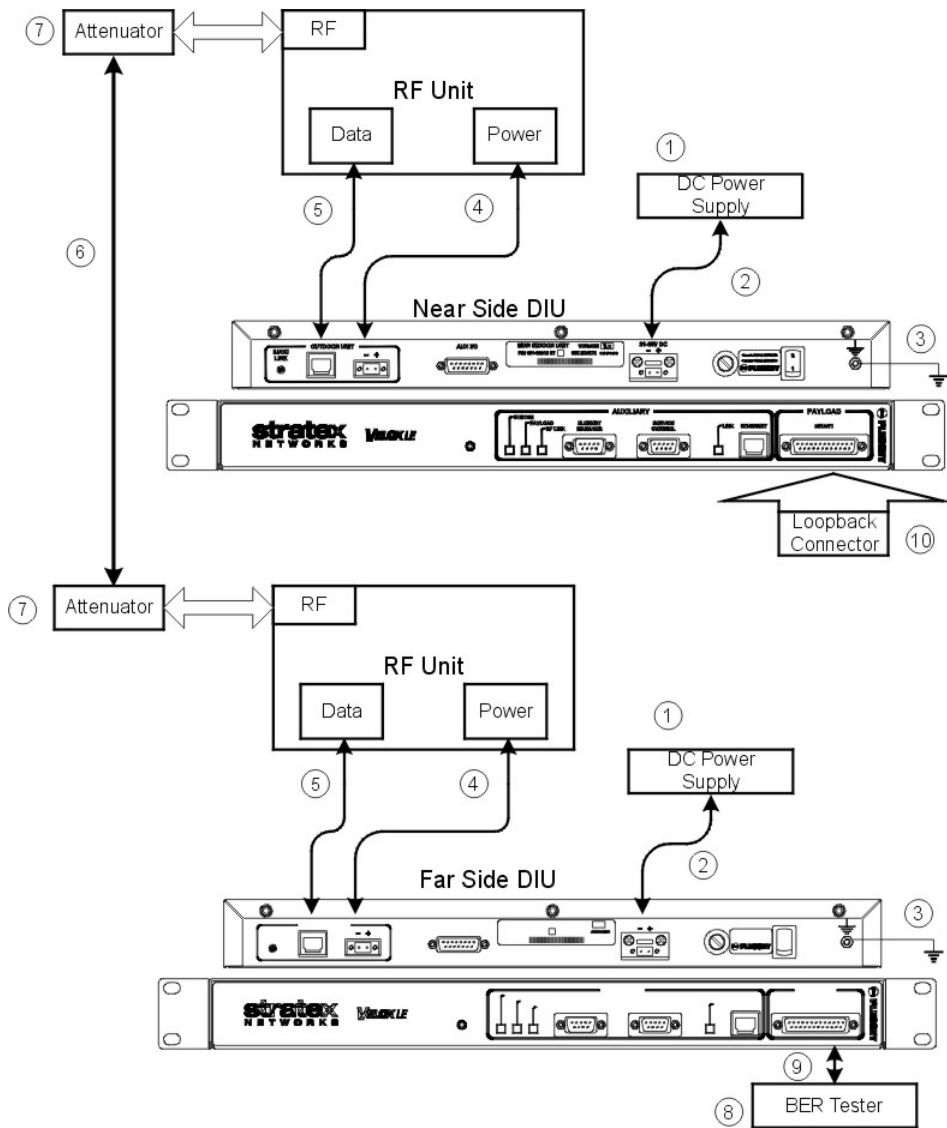

Figure 4-4. Velox LE System Connection for T1/E1 Bench Test (without PC)
1. Velox LE Installation & Operation Manual (This Manual)		Ensure that you understand: The use of the Reset Button when configuring the Velox LE (see Reset/Configuration Button (3) on page 3-7. How to interpret the DIU front panel LEDs (see DIU Status Diodes (2) on page 3-6 and DIU/RFU Link LED (7) on page 3-9).
2. Connect the Velox LE System as shown in Figure 4-4 on page 4-12 noting the following (the numbers in brackets following each note correspond to the numbers given on Figure 4-4):